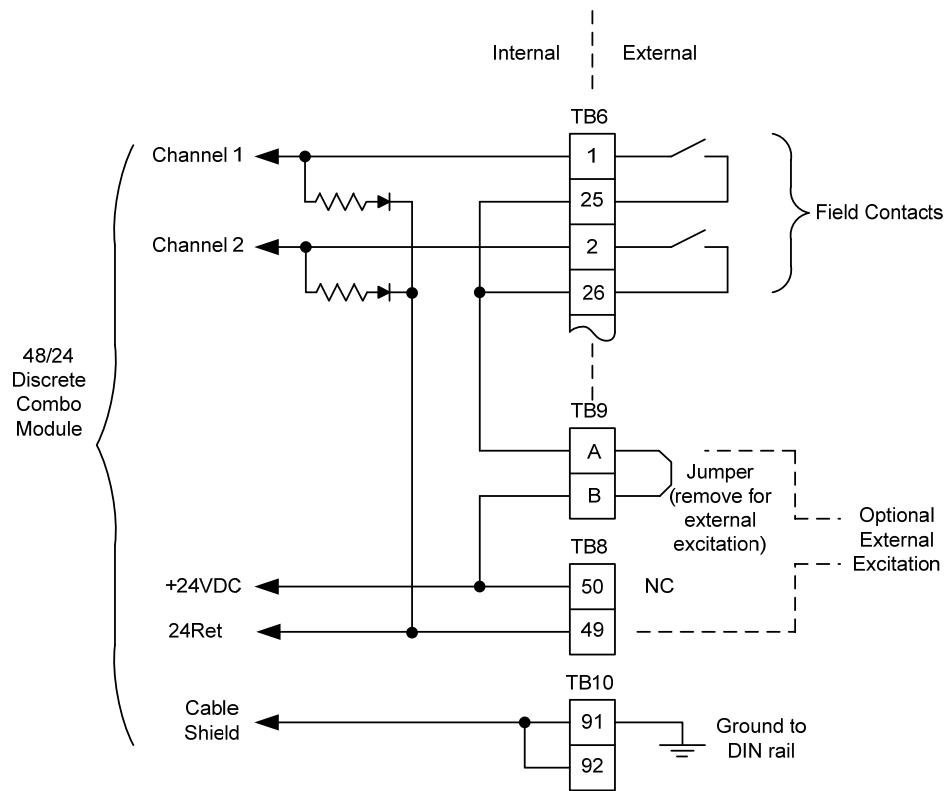

Figure 8-18—Discrete Input Interface Wiring to a 24/12 Discrete FTM
Each 24/12 Discrete FTM accepts 24 contact inputs. The 24/12 Discrete FTM may supply contact wetting voltage. Optionally, an external 18–32 Vdc power source can be used to source the circuit wetting voltage. If the 24 Vdc internal power source is used for contact wetting, a jumper is required between FTM terminals on TB9. If an external power source is used for contact wetting, the external source's common must be connected to the FTM's discrete input common, terminal 49 (see Figure 8-18).
- If the internal 24 Vdc is used, a jumper must be added to tie the internal 24 Vdc to the bussed power terminal blocks (see Figure 8-18).
- If an external 24 Vdc is used, the common for the external 24 Vdc must be tied to the discrete input common (see Figure 8-18). Power for contacts must be supplied by the control's power supplies, or the external power supply outputs must be rated to Class II at 30 Vdc or less and outputs must be fused with appropriately sized fuses (a maximum current rating of  $100/V$ , where  $V$  is the supply's rated voltage, or 5 A, whichever is less).